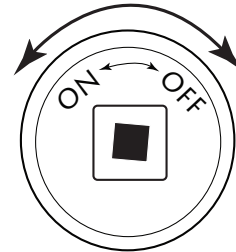

Fig. 6 Key Valve Face
1. Insert key into shut-off valve and secure into square end (see figs 6 & 7).
| Low flame | <ol style="list-style-type: none"> 1. Ensure the base media is at least 1-inch in diameter and top media is no more than 1-inch over top of burner. 2. Ensure all shut-off valves and key valve is fully open. See page 7; Fig. 6 3. Check gas pressure. |